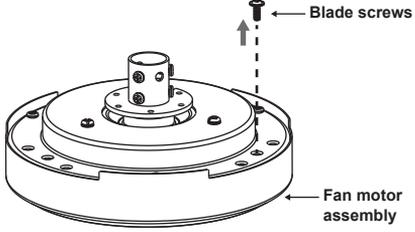

Figure 5
Step 1. Remove the nine blade screws from the fan motor assembly. (Fig. 5)